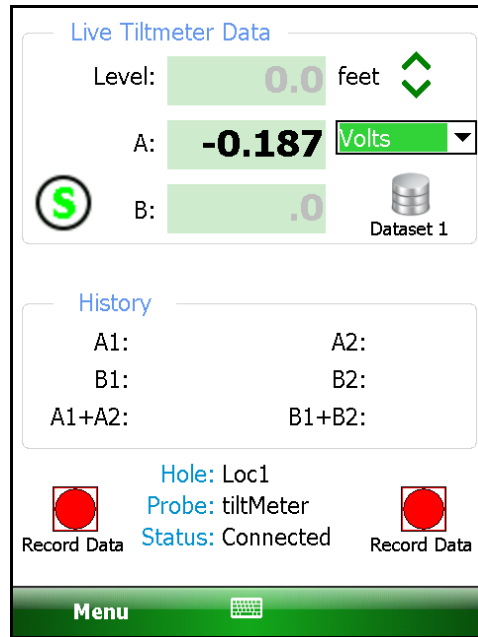

Figure 84 - Live Readings (Tiltmeter)
7. Tap the Live Readings menu item from the Application menu to start the reading process. If a valid Bluetooth connection can be established, a Tiltmeter specific Live Readings screen will be displayed (see Figure 84).
Note the drop-down control in Figure 84, located just to the right of the "A" value display. This allows the "A" value to be displayed in 3 different units, described below: